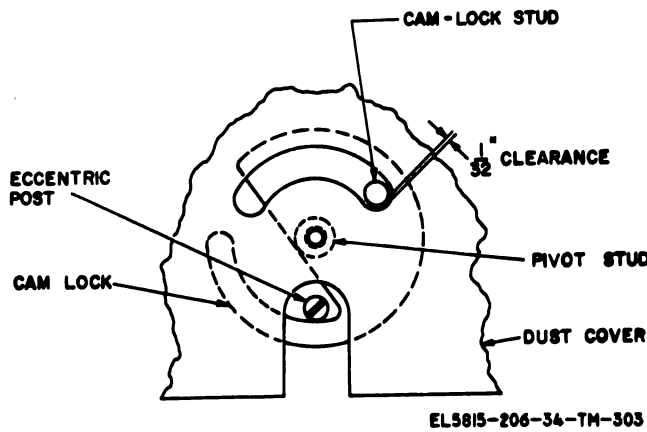

Figure 3-231. Dust-cover cam-lock adjustment (TT-4B/TG, TT-4C/TG, TT-335/TG, TT-537/G, TT-698A/TG, and TT-698B/TG ).
**3-268. Dust-Cover Cam-Lock Adjustment (TT-4B/ TG, TT-4C/ TG, TT-335/ TG, TT-537/ G, TT-698A/ TG, and TT-698B/ TG) (fig. 3-231)**